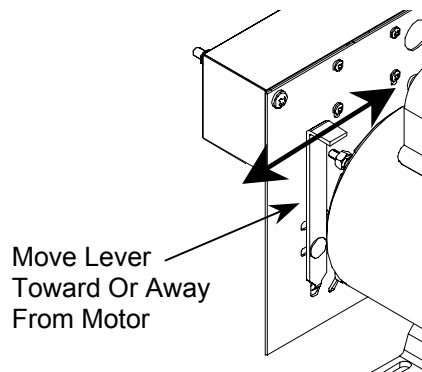

Figure 21 Brake adjustment
3. To adjust the brake band tension, move the adjustment lever. To increase tension, move the lever away from the motor. To decrease tension, move the lever toward the motor (Figure 21).